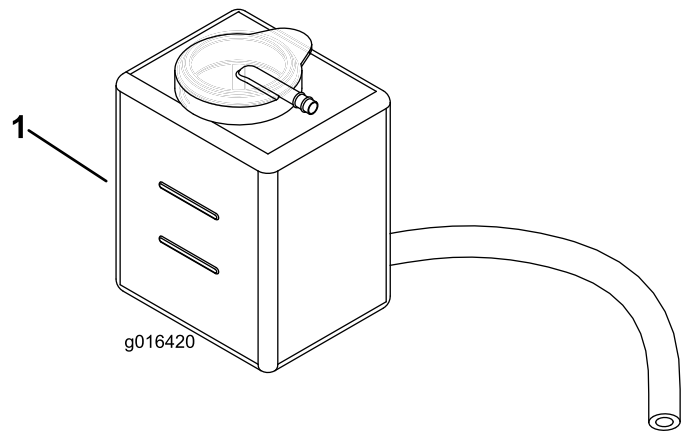

Figure 26
2. Check the coolant level (Figure 26). It should be between the lines on the reserve tank when the engine is cold.